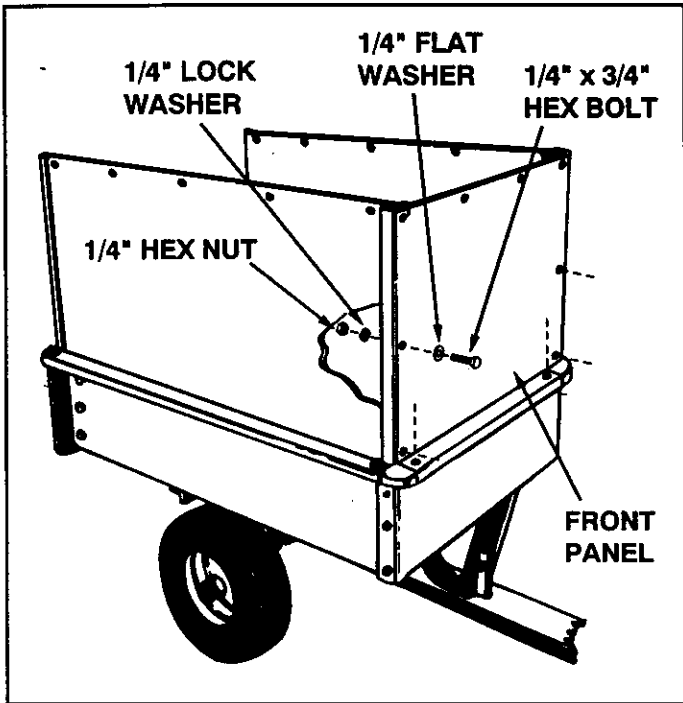

FIGURE 15
- Assemble front panel over the ends of the side panels and on top of the cart bed flange and the corner caps. Leaving the top holes in the front panel empty, fasten it to the cart body and the side panels using six 1/4" x 3/4" hex bolts, six 1/4" flat washers, six 1/4" lock washers and six 1/4" hex nuts. See figure 15.